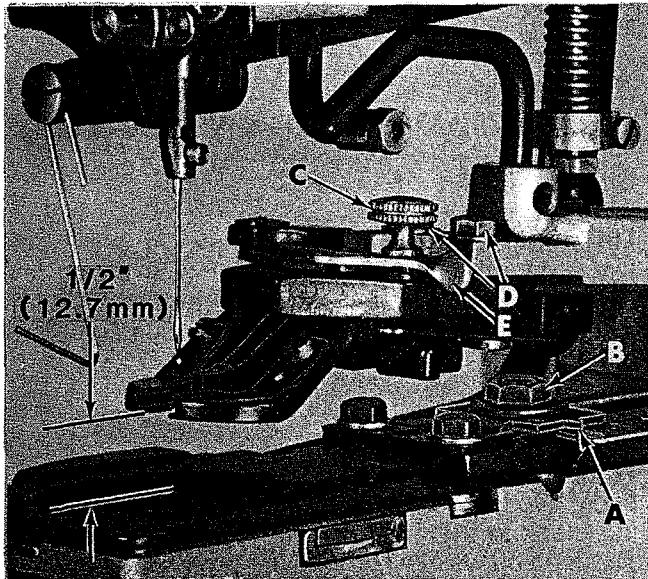
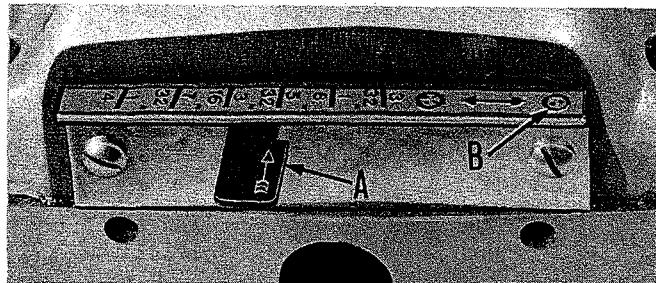
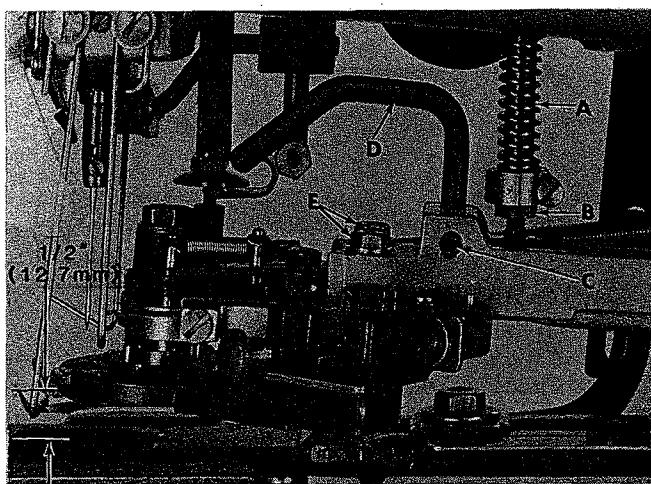

Fig. 32
Fig. 33
Fig. 34
Measure the distance between the two holes of the button (from center to center). Then set the indicator (A, Fig. 32) to corresponding dimension on the graduated scale by loosening nut (B). Move selector lever (A, Fig. 33) at rear of the machine to the two hole position (B).
Repeat the procedure for the two hole button except move the selector lever (A, Fig. 33) at rear of machine to a dimension on the graduated scale corresponding to the distance between the button holes.
NOTE: The stitch can be tightened on buttons having large holes by decreasing the lateral clamp travel—set indicator (A, Fig. 32) to a smaller dimension on the graduated scale.
Loosen screw (C, Fig. 32) and move the stop lever (B) as required.
Now, place a button into the clamp jaws (200-45) or button holder (200-38) so that the button holes correspond to the needle travel across the arm. Engage the machine into RUN POSITION and rotate the pulley in operating direction until the needle has penetrated all the holes in the button. The needle should enter the center of each hole. The button clamp may be shifted slightly to obtain this condition by loosening screws (D, Fig. 32) on 200-45 or (E, Fig. 34) on 200-38. It may also be necessary to deviate slightly from the graduated scale dimensions previously used.
Machine is in STOP POSITION. The button clamp or holder should be adjusted so that the bottom is approximately 1/2 inch (12.7 mm) from the feed plate, (See Figures 32 and 34).
Loosen set screw (C, Fig. 34) and raise or lower rod (D) as required. Now engage machine into RUN POSITION. The clamp in down position must contact the feed plate and there should be clearance between the lifting rod (D) and the roller.
The stop pin is located inside the clamp tension spring (A, Fig. 34).
Loosen locknut (B, Fig. 34) and turn the lower section to lengthen or shorten the pin. Tighten locknut (B).